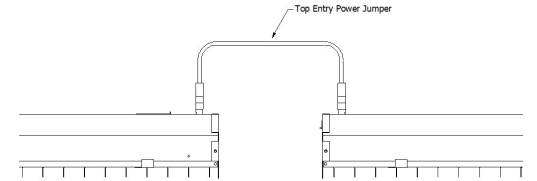

Figure 7
4. For fixtures using the Power Jumpers shown in Figure 4, install fixtures as per standard fixture install instructions. Then connect the power jumper from the power exit socket of the first fixture to the power entry socket of the second fixture, and so on, see Figure 7. The first fixture may use the Power Entry Cable, shown in Figure 5, or be wired directly, see standard fixture install instructions for wiring instructions.